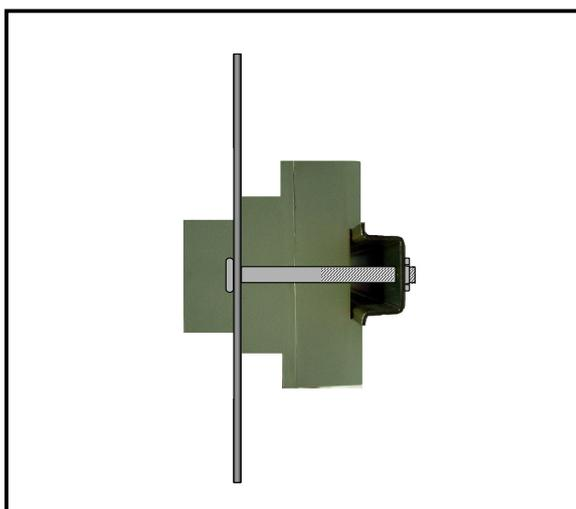

Fig. 3.14 – Fixing the module to the panel
4. Use the dedicated tie rods to fix the whole thing to the panel (Fig. 3.14).